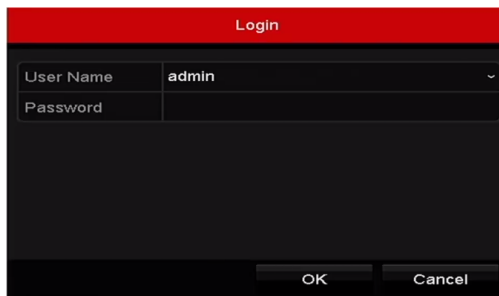

Figure 2-8 Normal Login Dialog Box
Step 1 Right click the mouse on the screen and select the menu to enter the interface as shown in Figure 2.8.